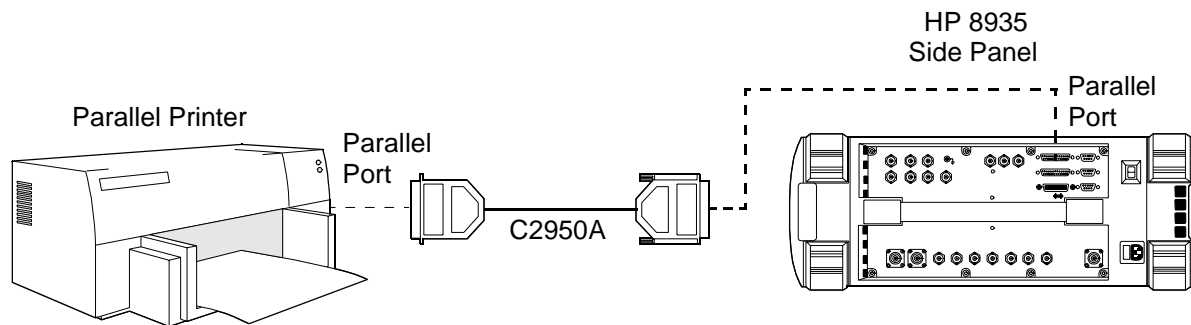

Figure 39 Test Set to Parallel Printer Connection
5. Connect the parallel printer to the Test Set's PARALLEL 15 port (see figure 39).